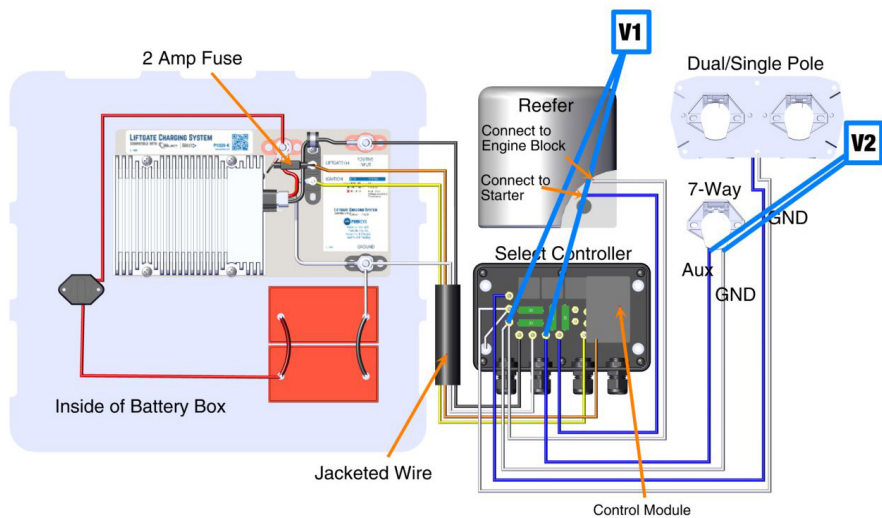

Figure 18
**Step 1:** With the reefer unit off and the stinger unplugged, plug in the 7-way cord. Start the tractor and let the engine run. Use a voltmeter to measure the voltage between the AUX ground stud and the AUX positive stud inside the Select Controller (see V1 in Figure 18). It should read 13.8 volts or greater. If yes, and the light still is not solid green, call customer service, as the Select Controller or Control Module may be defective. If no, proceed to step 2.
**Step 2:** With the reefer unit off and the stinger cord unplugged, plug in the 7-way cord. Start the tractor and let the engine run. Use a voltmeter to measure the voltage between the AUX center pin and the top ground pin on the 7-way receptacle on the trailer (see V2 in Figure 18). It should read 13.8 volts or greater. If yes, repair or replace the wiring between the 7-way receptacle on the trailer and the Select Controller (check the wiring, connections, and fuses, if existing, in the 7-way nose box). If no, measure the voltage at the truck battery. If the reading is greater than 13.8 volts, the issue is in the wiring from the 7-way to the truck. If the reading is less than 13.8 volts, the issue is the charging system of the truck; allow the battery to charge or repair the charging system on the truck.